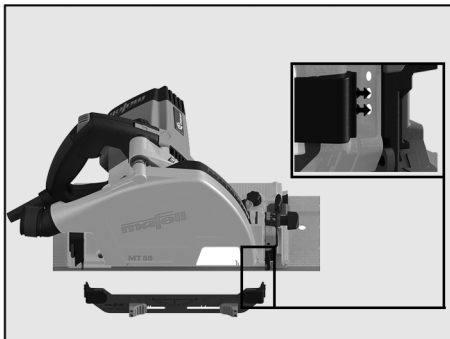

Fig. 26: Clamping the position indicator – working with a guide rail
- Use the two lower holes when you use a guide rail (see Fig. 26).